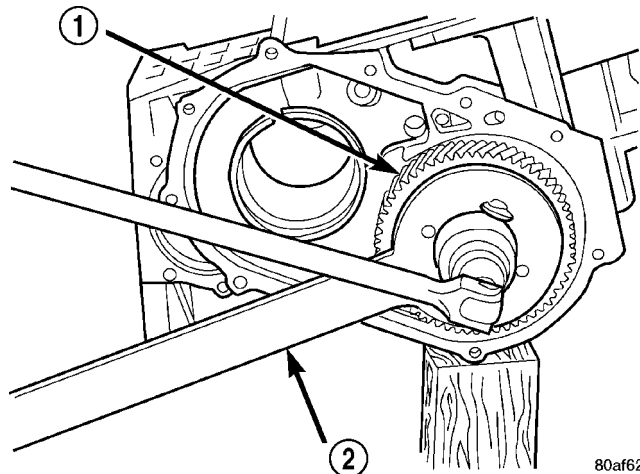

Fig. 65 Remove Output Gear Bolt
(50) Using Tool 6259 (Fig. 65), remove output shaft gear-to-shaft bolt and washer (Fig. 66).